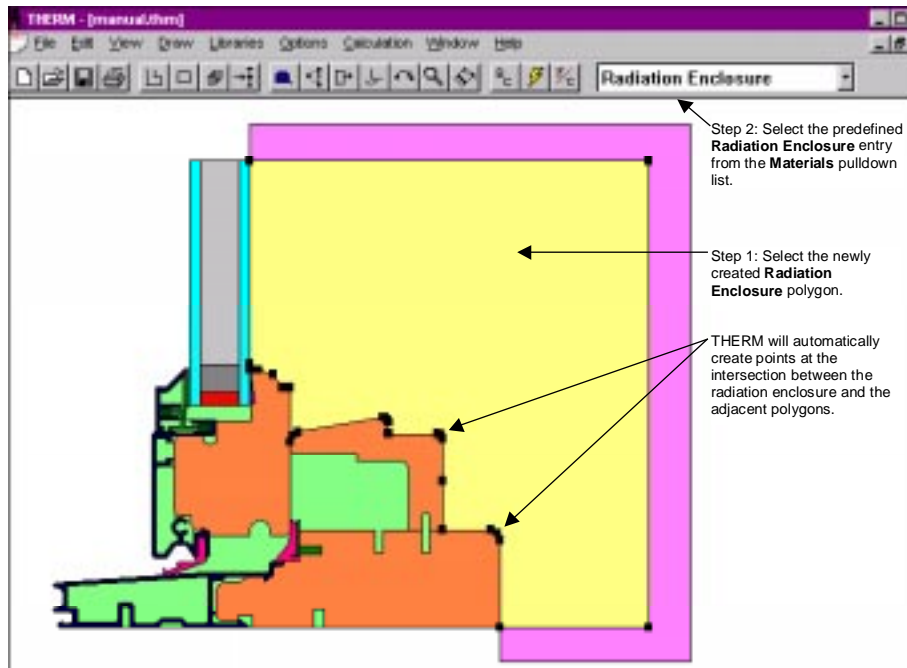

Figure 5-58. Assign the predefined material **Radiation Enclosure** to the Radiation Enclosure polygon.
4. Select the polygon that is created by using a single click of the left mouse button, as shown in Figure 5-58. Assign the material of the radiation enclosure polygon from the **Materials** pull-down list on the right side